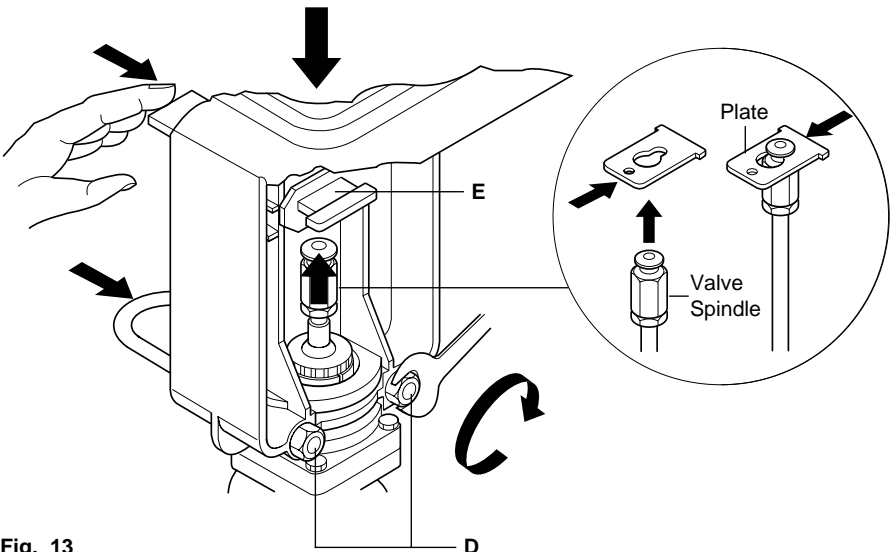

Fig. 13
Loosen the U-bolt securing nuts (D) and locate the actuator onto the shoulder of the collar. Push the spring loaded plate (E) and pull the valve spindle up to engage into the plate. Releasing the plate will lock the valve and actuator together. Tighten the U-bolt nuts (D) to a torque of 4 N m. See Fig. 13.